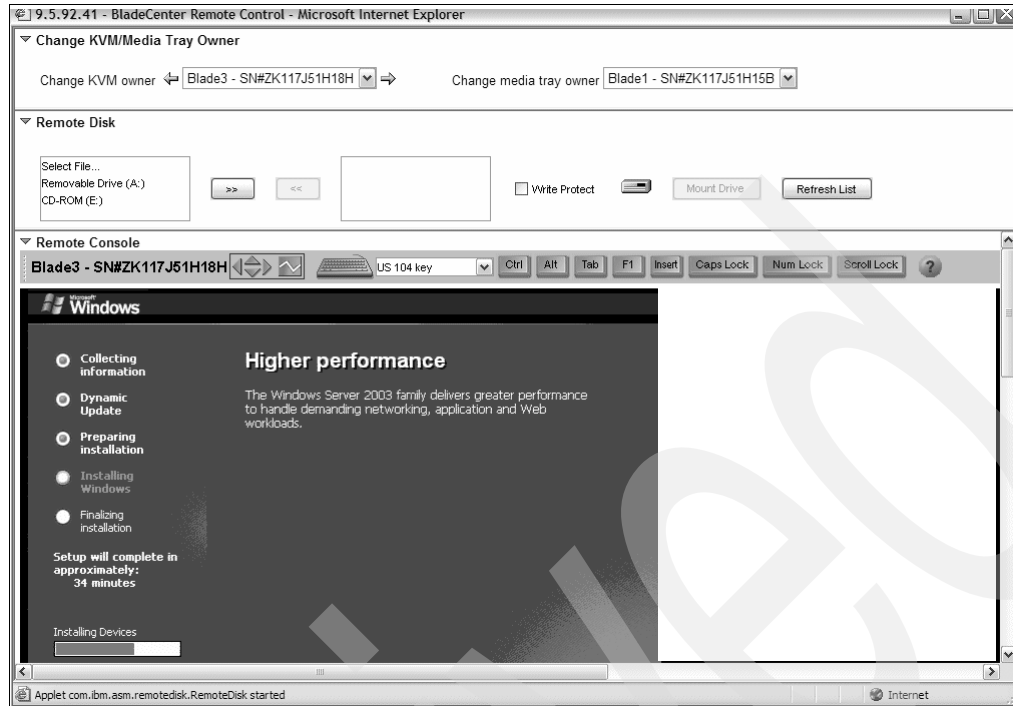

Figure 4-35 Install from the remote control panel verify keyboard icon is highlighted
- If you are doing an install from the remote control panel of the System Processor's management interface, you might experience a loss of control over the keyboard during the Windows portion of the install. From the management module, check to see that the keyboard icon is highlighted (Figure 4-35 on page 80). If it is not, you might not be able to use the keyboard.